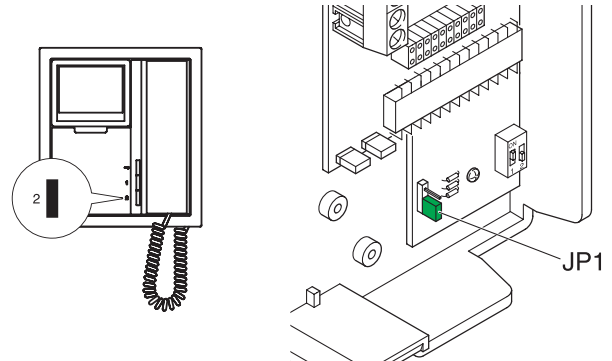

Fig. 1
1. On articles 4882, 4883 remove the two jumpers in the bottom right hand corner (Fig. 1).